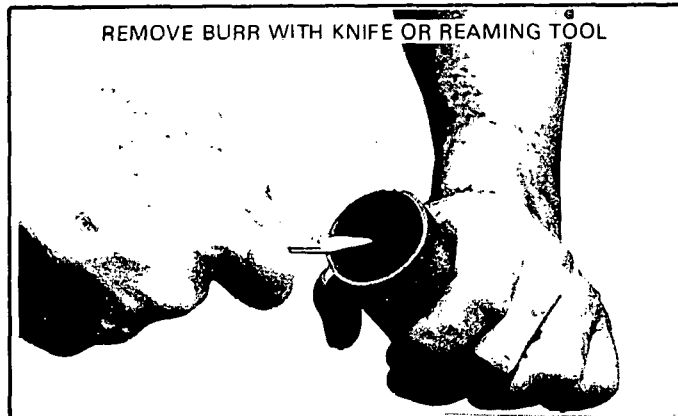

FIGURE 9
- b - Remove any burrs with knife or reaming tool as shown in Figure 9.